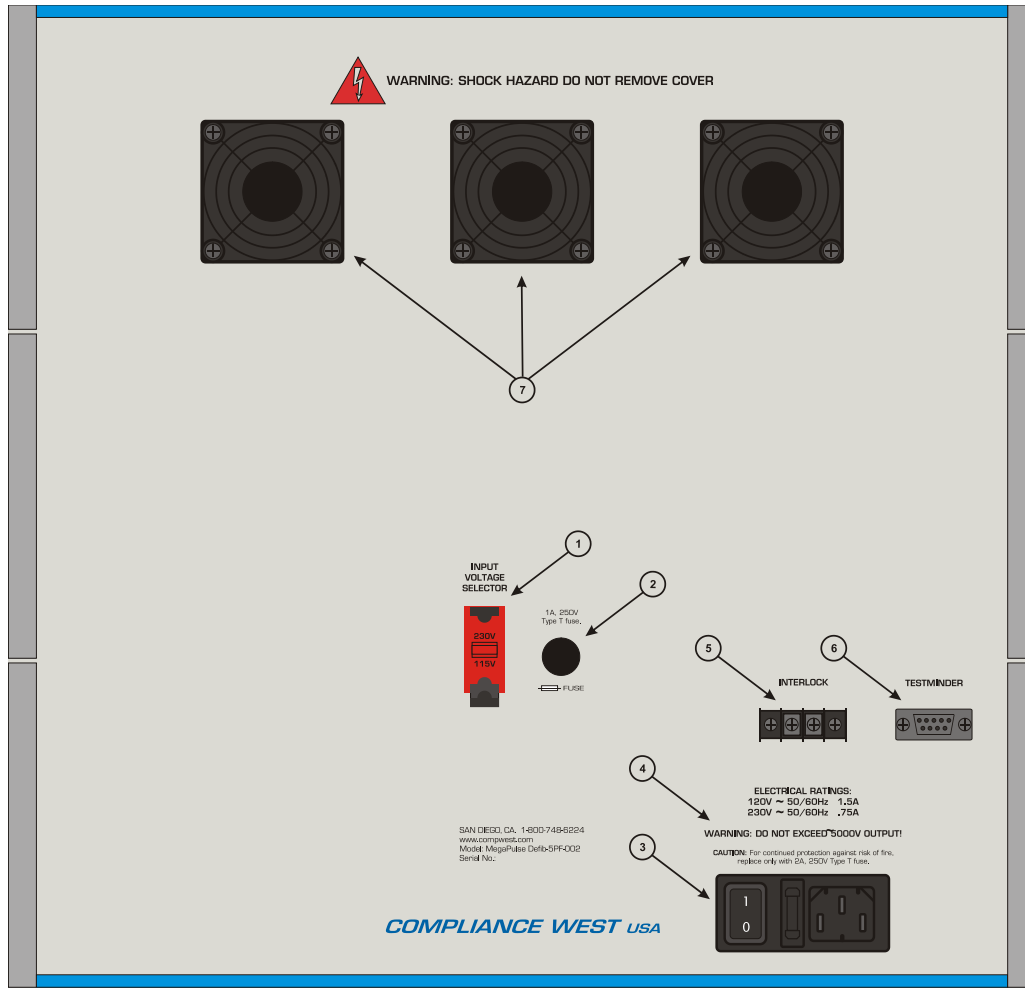

Figure 3 MegaPulse Defib-5PF-003 Rear Panel
3. Set the front panel switches depending the type of test need it. Follow the front panel directions or see Figure 3 for the electrical diagram.